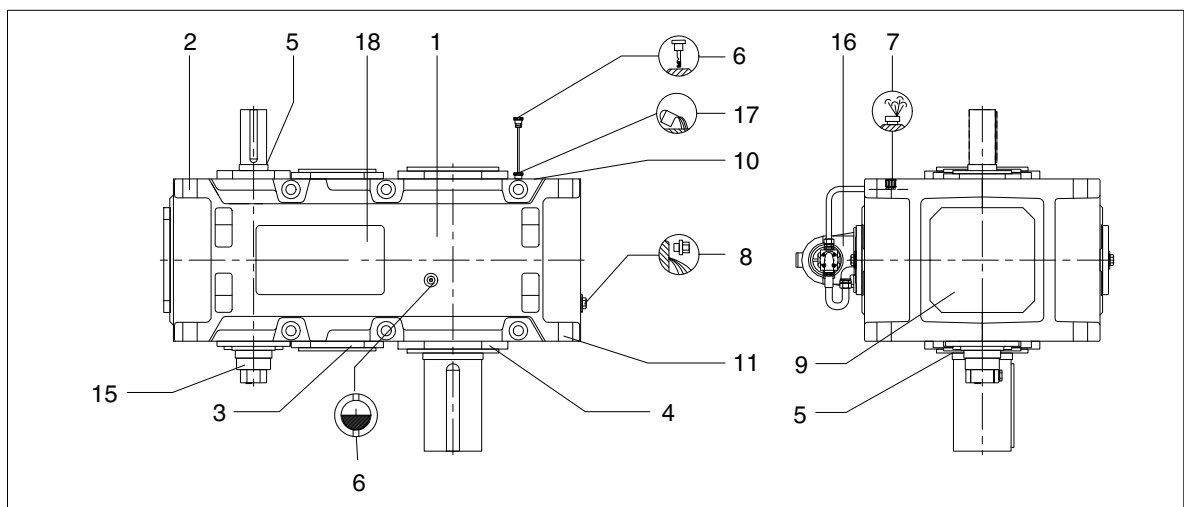
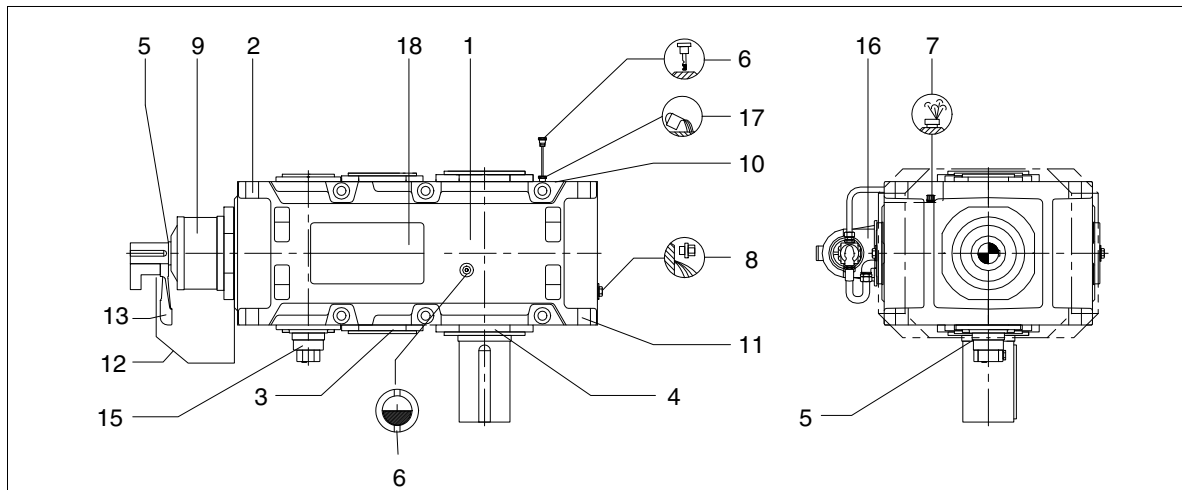

Fig. 10: Gear-unit features on gear units type H..V with add-on oil-supply system
Fig. 12: Gear-unit features on gear units type B..V with add-on oil-supply system
- Version with add-on oil-supply system (see figure 10 and figure 12)